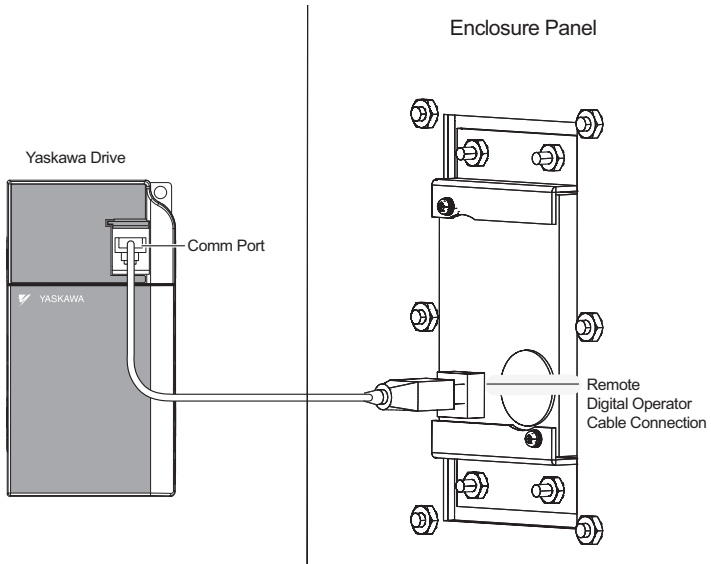

Figure 5 Communication Cable Connection
7. Plug one end of the digital operator cable (3 ft and 10 ft cables included) to the female connector on the backside of the digital operator as shown in Figure 5. Select the cable length best suited for the enclosure size. The remaining cable can be discarded.